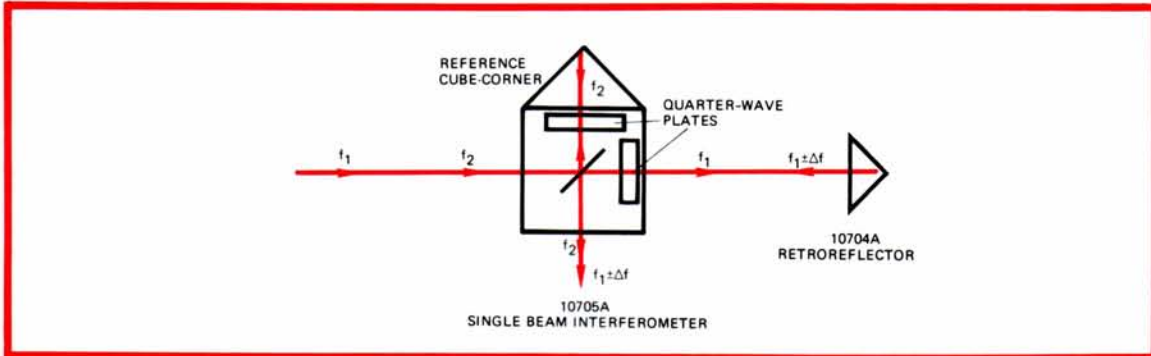

Figure 2-14. Single Beam Interferometer Laser Beam Path
2.13 10705A SINGLE BEAM INTERFEROMETER AND 10704A RETROREFLECTOR (Figure 2-13). A single beam interferometer is so called because the outgoing and returning beam are superimposed on each other giving the appearance of only one beam traveling between the interferometer and the retroreflector. This interferometer operates the same as the standard interferometer functionally but it is advantageous when space for optics and beam paths is at a premium. The retroreflector is again a cube corner but it is considerably smaller than the standard cube corner and the interferometer is smaller than the standard interferometer. One significant difference is that the receiver in this case is mounted at right angles to the measurement beam and the **interferometer cannot be moved**. A diagram of this type of interferometer is shown in Figure 2-14.
2.14 SINGLE BEAM INTERFEROMETER LASER BEAM PATH. A polarizing beam-splitter reflects  $f_2$  to the reference cube corner and transmits  $f_1$  to the 10704A Retroreflector or other surface whose displacement is being measured (Figure 2-14). The return path is superimposed on the outgoing path. Since both beams leaving the beam-splitter pass through a quarter-wave plate the returning polarizations are rotated through 90 degrees. This causes  $f_2$  to be transmitted and  $f_1 \pm \Delta f$  to be reflected so that they are directed coaxially to the receiver along a path perpendicular to the measurement path.